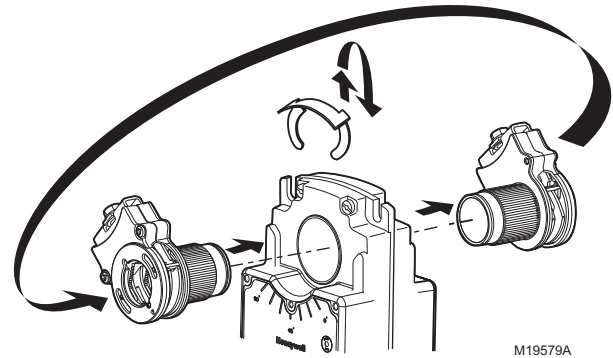

Fig. 21. Mounting shaft coupling to actuator opposite side.
- (1) Reposition reverse/direct acting switch, or
- (2) Remount actuator on the bracket.
- d. Move the actuator coupling to the opposite side of the actuator, as displayed in Fig. 21.
- (1) Remove the retainer clip from the shaft coupling and set it aside for later use.
- (2) Remove shaft coupling from one side of the actuator.
- (3) Replace the shaft coupling on the opposite side of the actuator, aligning it based on the stroke labelling.
- (4) Replace the retainer clip on the shaft coupling using the groove of the coupling.